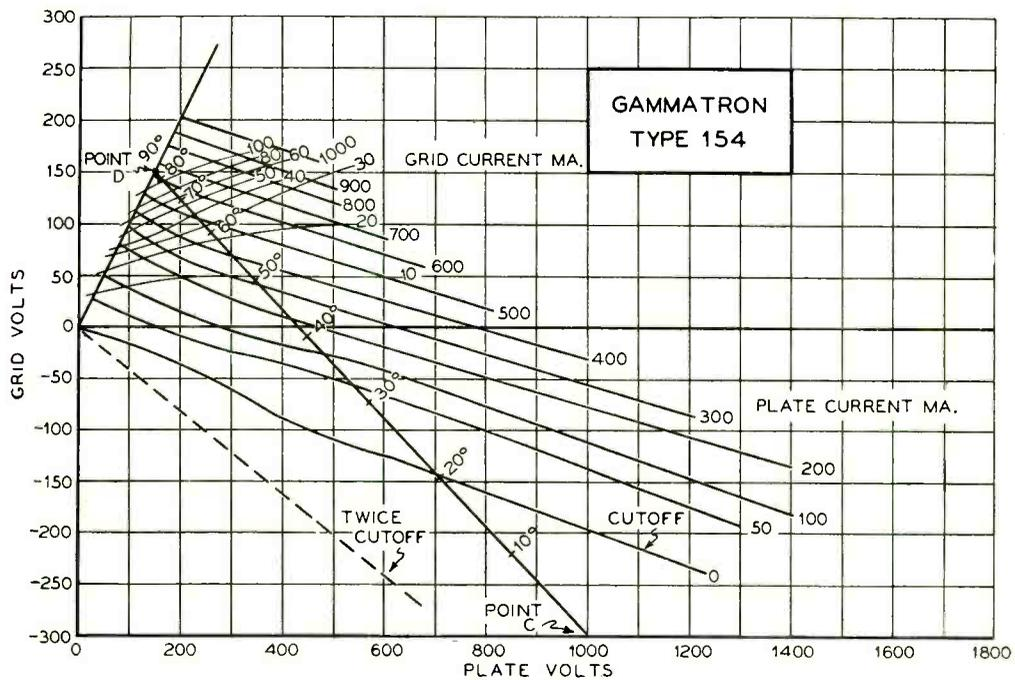
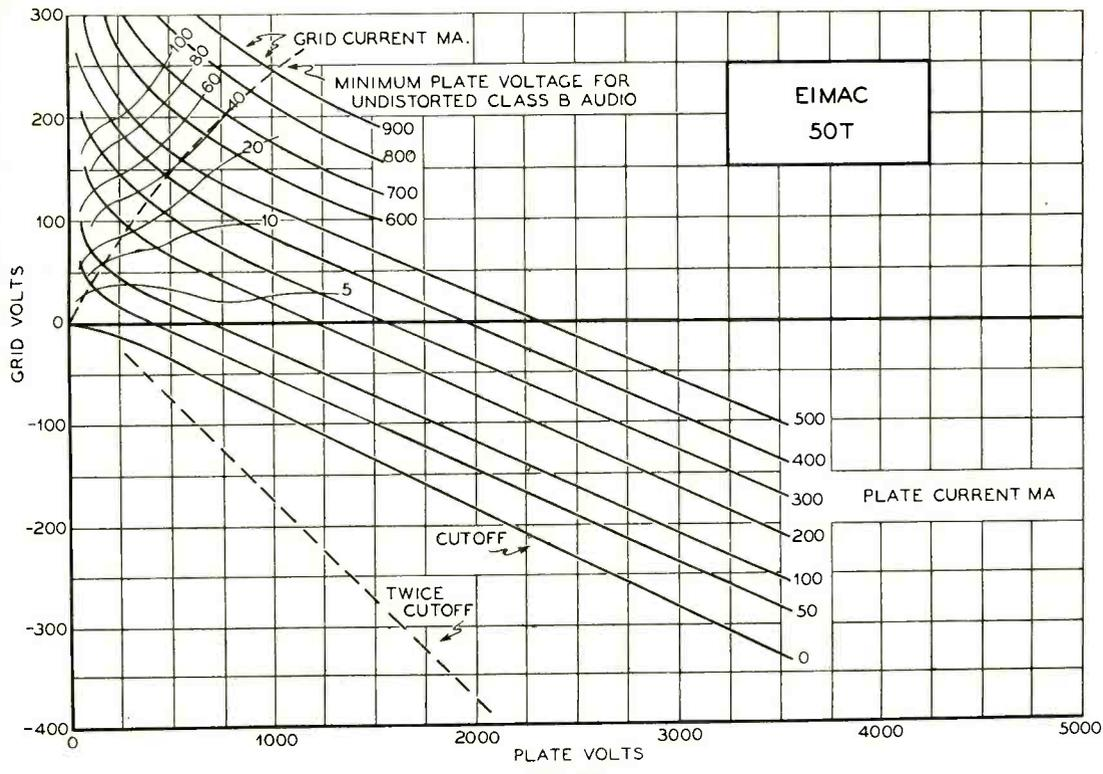
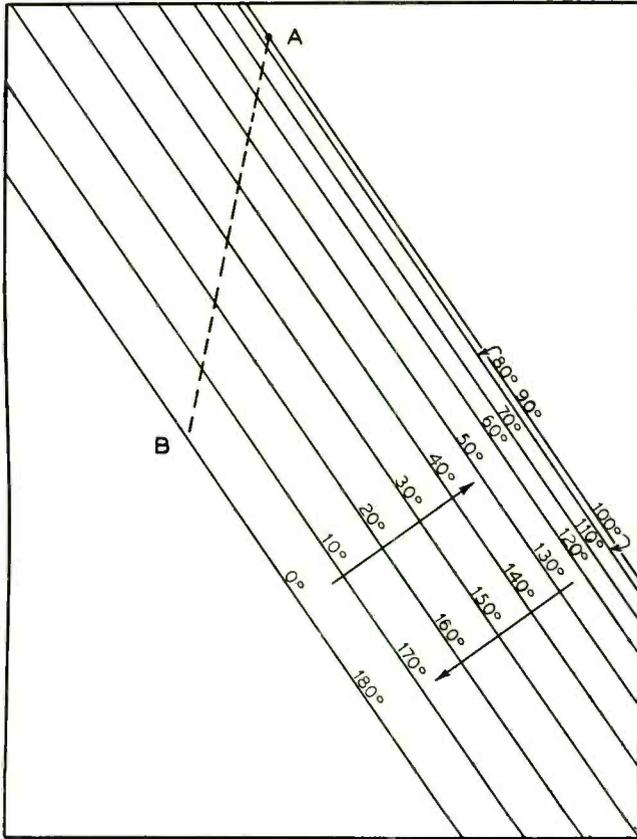
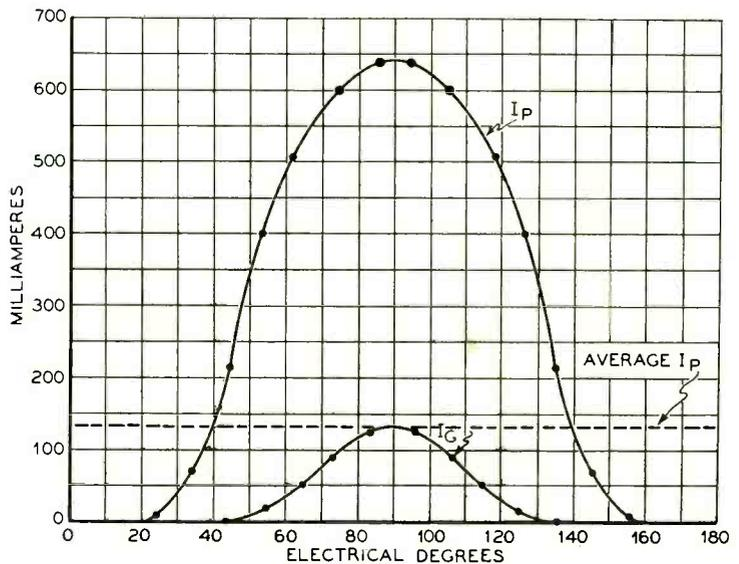

FIGURE 1
FIGURE 4
FIGURE 6
FIGURE 7
While the constant current type of curve has been used in other ways, its application to vacuum tube characteristics is a relatively new one. Their use was first suggested by Mourontseff and Kozanowski\*\*. To the writer's knowledge, however, the Eimac people are the only ones who supply constant current charts for amateur transmitting tubes. Curves for the Eimac 50-T and 150-T are reproduced in figures 4 and 5. Figures 1, 2, and 3, showing constant current charts for the Heintz and Kaufman 154 and 354, and the RCA 801 were drawn by points transferred from the conventional  $E_g-I_g$  and  $E_p-I_p$  characteristics. The process of re-plotting is a relatively simple one which any amateur can do for his favorite final amplifier tube. Ordinary graph paper having 20 divisions to the inch is particularly well suited. The curves shown in figures 1 to 5 may be used as a guide in the selection of suitable scales for each square in these figures was half inch on a side before reduction.
The Gammatron 154 will be used for illustration, with 1000 volts on the plate. The bias required will depend upon the use, varying from  $1\frac{1}{2}$  times to several times cutoff. The greater the bias, the higher the efficiency, but the greater the driving voltage required. Let us select the  $1\frac{1}{2}$  times cutoff point. At 1000 plate volts (see figure 1) the cutoff point is -200 volts, placing the  $1\frac{1}{2}$  times cutoff point at -300 volts. One end of the dynamic characteristic will then be at  $E_p = 1000$  and  $E_g = -300$  volts, or point C on figure 1.
To aid in marking off the intermediate degree points, the sine chart of figure 6 has been devised. Its use is as follows: Place an edge of a sheet of paper along the line C-D of figure 1 and mark the distance between C and D on the paper, labelling each mark with its own letter. Now place the piece of paper on figure 6 so that point D coincides with point A. Pivoting on this, swing the paper until the point C falls upon the 0-180 degree line near B. Holding the piece of paper in position, mark the paper where the 10, 20, 30 etc. degree lines meet the edge of the paper. We now have our length C-D divided into a sine scale and the points can be transferred to the dynamic characteristic of figure 1 as shown.
When the electrical angles are marked off on C-D of figure 1 in 10 degree intervals, a plot of the plate and grid current pulses (similar to figure 7) can be made. The plot is not essential to the analysis, but for the first time it aids in the visualization of what goes on. No plate current flows until we go up the dynamic characteristic to about 22 degrees, where we cross the plate current cutoff line. At 35 degrees the plate current is about 70 ma., at 45 degrees about 220 ma., and so on.
At the 42 degree point the zero grid voltage point is passed and grid current starts to flow. For 55 degrees the plate current is about 400 ma. and the grid current about 15 ma. This procedure is followed to the 90 degree point, or the crest of the r.f. excitation cycle. A glance at figure 6 shows that the same scale for sines is followed from 90 to 180 degrees except that we descend from D to C and add our 10 degree intervals to 90 degrees. Thus in descending, 80 degrees is the same as 100, 70 the same as 110, etc. The simplest method, knowing the current pulses of figure 7 to be symmetrical, is to read points from 0 to 90 degrees and to plot the same current for the same number of degrees on either side of 90.
$E_B$  = plate power supply voltage (point C on figure 1)
$E_{\min}$  = Lowest value to which plate voltage swings throughout the cycle (point D figure 1).
$E_{\max}$  = The most positive voltage the grid attains throughout the cycle (point D figure 1).
After plotting the grid and plate current pulses to scale as in figure 7, the average plate and grid currents (those which would be indicated by a d.c. milliammeter) are found by integration of the pulses over 360 degrees, one complete cycle. This integration may be performed in many ways, one of the simplest being that of taking the value of plate and grid current for every 10 degrees throughout the complete cycle and averaging them. The height of the curve at the mid-point of each 10 degree strip for the pulse is tabulated. By dividing the number of these 10 degree strips per cycle (36) into the total value of the mid-ordi-
One important conception is that the electrical angles of figures 1 and 7 are really func-
tions of time. The "angle of flow" of the plate current pulse of figure 7 is about 130 degrees. The smaller this angle (obtained by higher bias) the higher the class C amplifier efficiency, but the lower the power output per tube. For amateur work in which tube costs are a consideration, about twice cutoff is best.